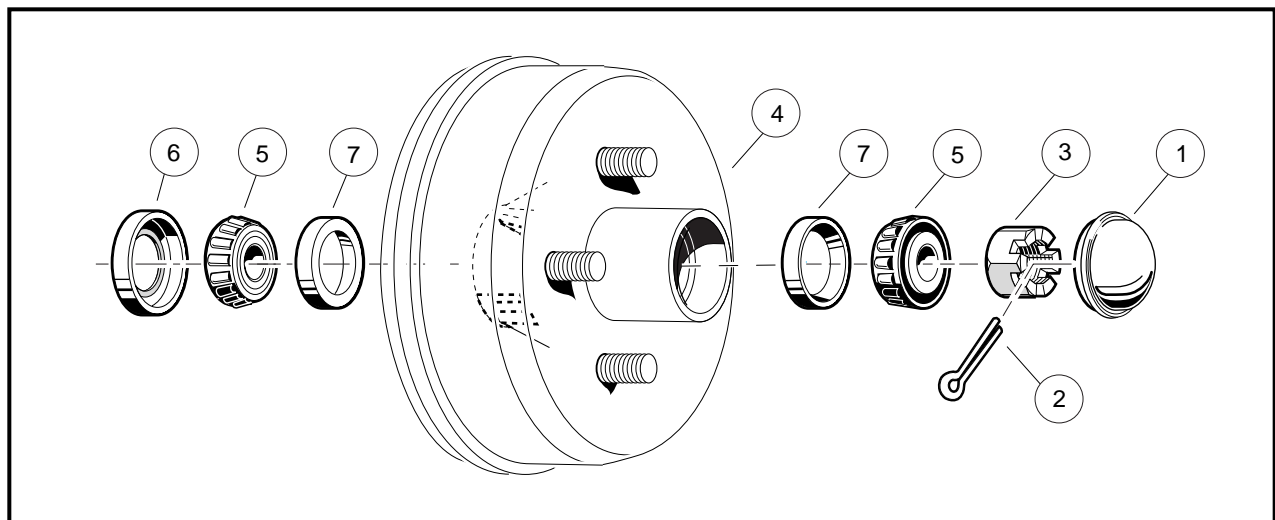

Figure 6-2 Front Spindle and Brake Drum Assembly
3. Remove the dust cover (1) (**Figure 6-2, Page 6-7**).
4. Remove the cotter pin (2) (**Figure 6-2, Page 6-7**).
5. Remove the castle nut (3), wheel bearing (5) and drum (4) (**Figure 6-2, Page 6-7**).